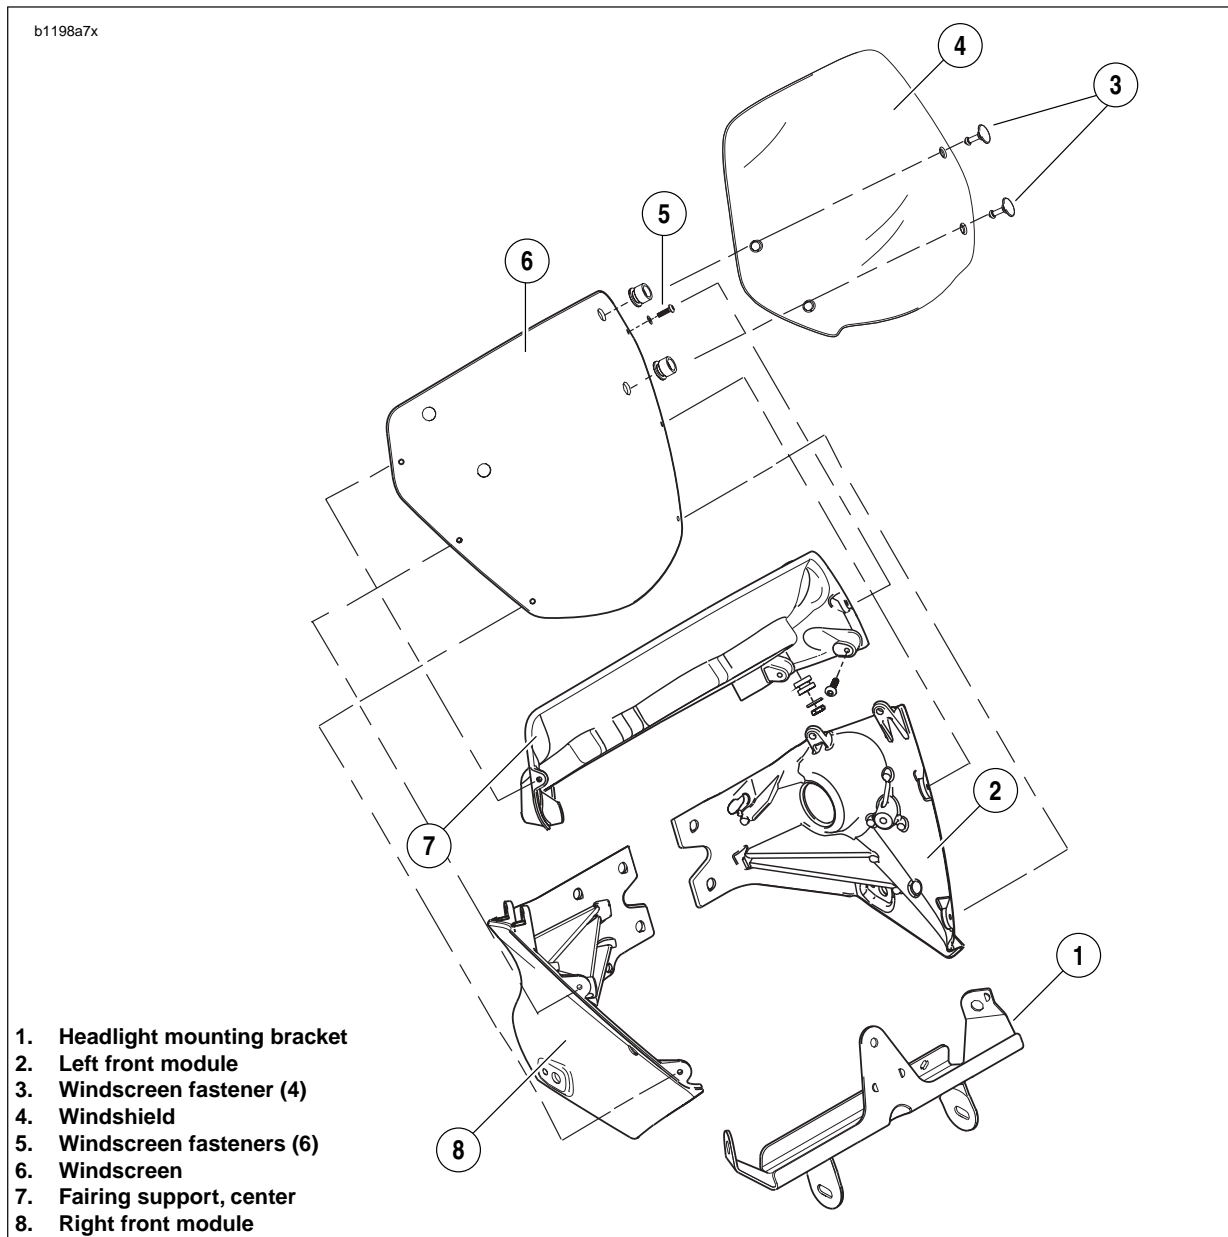

Figure 2-133. Windshield and Windscreen
- The windscreen fastens into the left and right front modules (2, 8) and the center fairing support (6).
1. See Figure 2-133. Remove windshield (4) by pulling loose from windscreen (6).
2. Remove six windscreen fasteners (5).
3. Remove windscreen (6).
1. See Figure 2-133. Position windscreen (6) onto left and right front modules (2, 8) and the center fairing support (6).
3. Install windshield (4) by pushing into place. Pull on windscreen when installed to verify attachment.